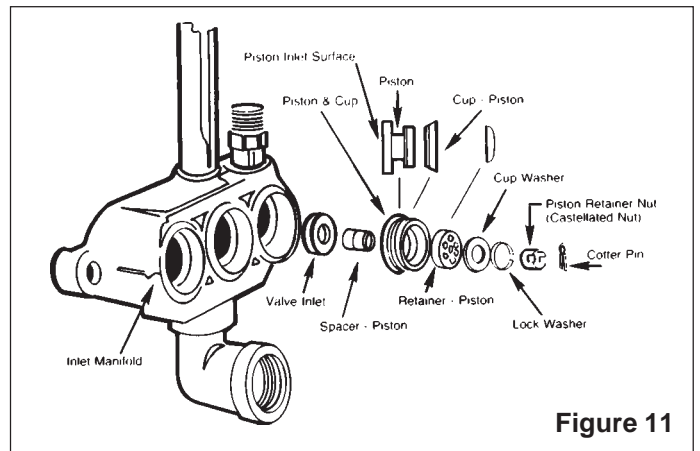

Figure 11
- Remove cup and piston assembly in following order, maintain in this order for reassembly (*Figure 11*).
If the major diameter of the piston **next to the cup** has a sharp edge or if the piston inlet surface is pitted or damaged, replace piston (*Figure 11*).